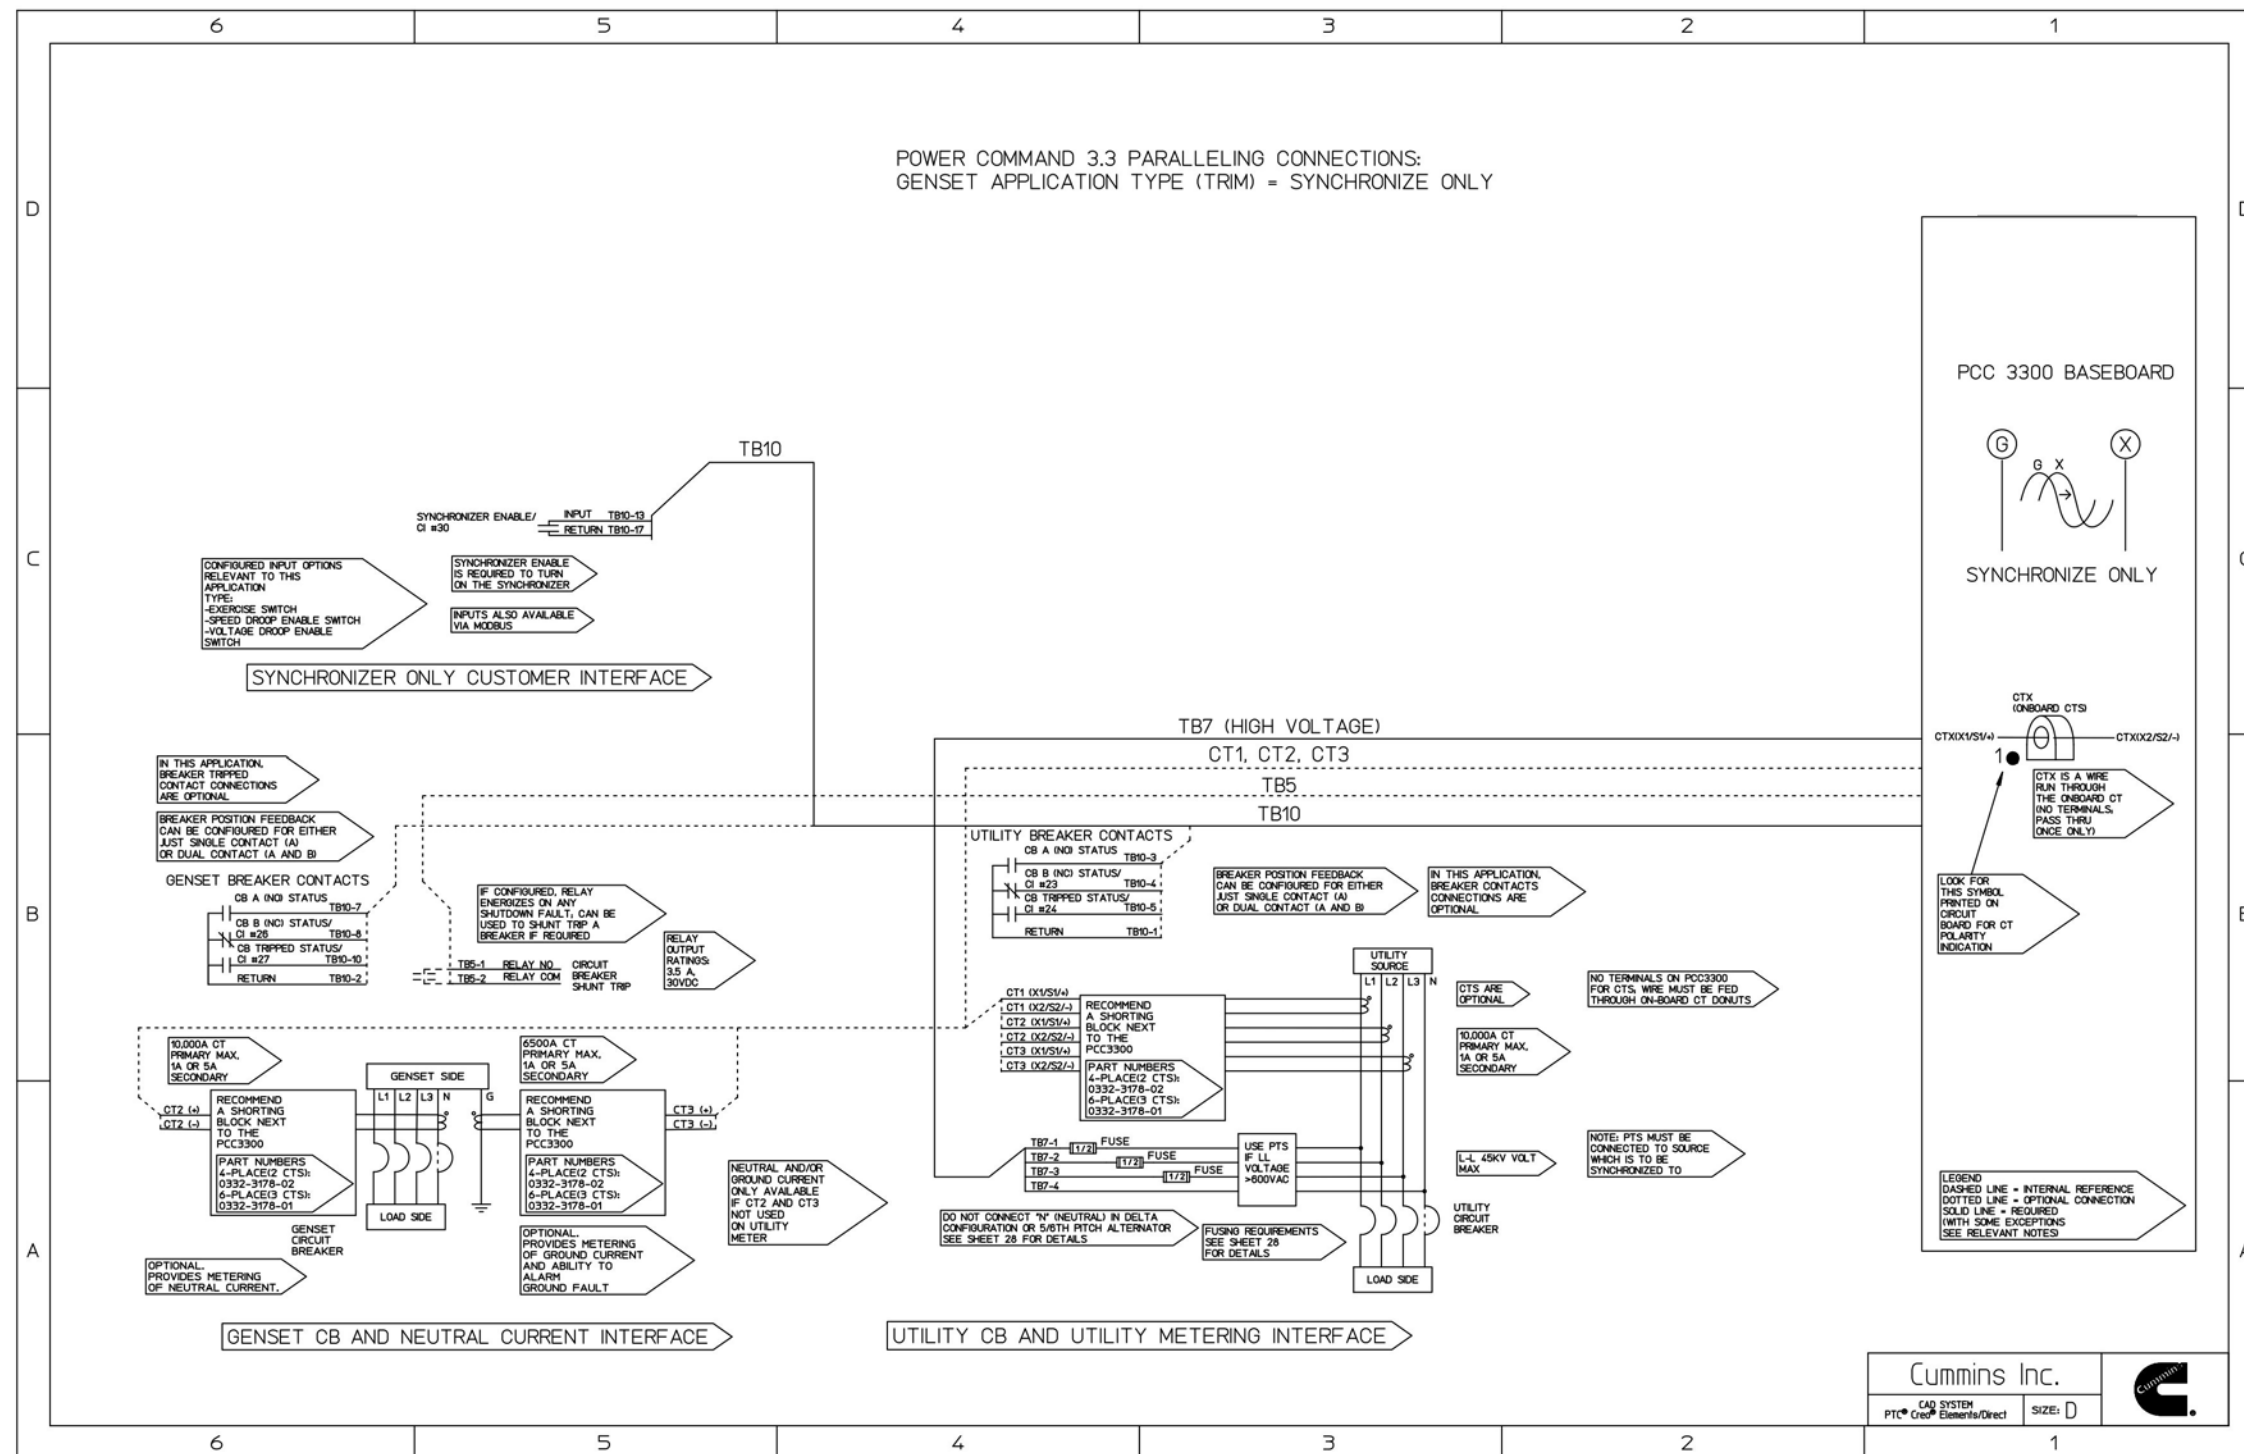

FIGURE 55. POWERCOMMAND 3.3 PARALLELING CONNECTIONS - SYNCHRONIZE ONLY
- Figure 55. PowerCommand 3.3 Paralleling Connections - Synchronize Only 118